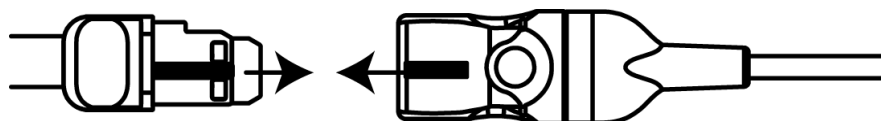

Figure 10-13 Connecting a sensor to the sensor cable connector
- 3 Position the sensor connector in front of the sensor cable connector and align the marks on each (figure 10-13).